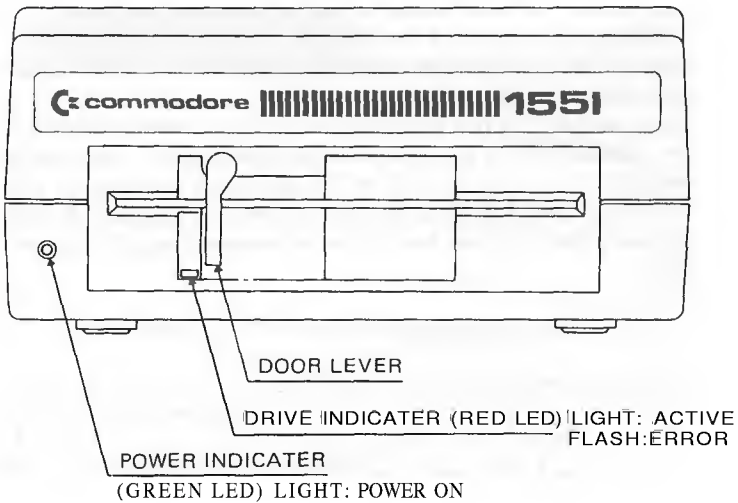

Figure 1. Front Panel
- Figure 1: Front panel
To check whether the drive is empty, simply rotate the lever on the front of the disk drive counter-clockwise until it stops (see Figure 1), one-quarter turn at most. Then reach inside the long slot the lever covers when it points down, and pull out the cardboard shipping spacer inside. Don't throw it away. You will want to put it back inside the slot any time you move or ship the disk drive later.